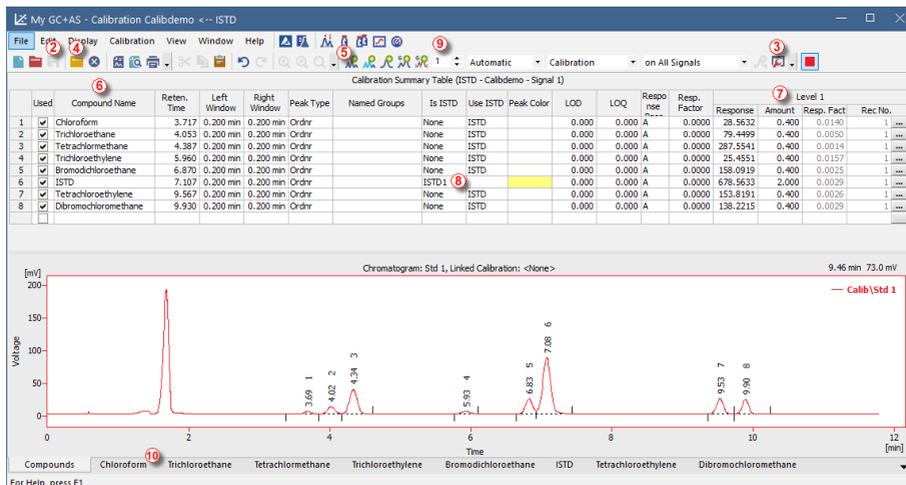

Fig 9: Calibration window - loaded standard
- Only one signal of the chromatogram can be active at a time. The active signal can be recognized from the legend section (1) in the upper right corner of the graph (active signal is set in bold), from the icons in the **Overlay** toolbar (2) (the active signal has the highlighted ■ icon) or from the graph outline color and table headers color. Values inside the tables change by changing the active signal.
- Change the active signal by double clicking on its name in the legend section (1). Change the color of the currently active signal to another one
- by clicking on the *Not used color*  icon in the *Overlay* toolbar. All parts of the **Chromatogram** window mentioned in the previous step will change color. Return to the former active signal by clicking on its (now raised ) icon in the *Overlay* toolbar ②.
- Click on any row in the *Result table* ③. The peak (or peaks) corresponding to the row you just clicked onto will change color according to the color of the signal. This change will last until the focus in the *Result table* is canceled.
- To add permanent color to the peak, click the *View* button ④ in the right side of the **Results** tab. This will get you to the linked calibration file. There, in the *Calibration Summary Table*, find the *Peak Color* column (see **Fig 9** on pg 20.). In the row corresponding to the peak to be colored select the appropriate color and click *OK*. Return to the **Chromatogram** window by using the  icon in the menu. The selected peak is now colored according to the color selected in the **Calibration** window.
- You can change the integration of peaks by using the interactive icons on the toolbars on the left side of the **Chromatogram** window ⑤ or directly on the **Integration** tab ⑥. Any changes made either way will change the **Integration table** and can be copied to the template method. To do so, click on *Method - Save as Template...* menu comand.
- Check that the **Current Level** field **9** is set to 1 in order to set the calibration level number 1. Use the **Add All** icon (blue) **5** to move all identified peaks to the calibration table. The Calibration table appears in the **Calibration** window, ready to be completed as seen on **Fig 9** on pg 20.
- As it can be clearly seen in the calibration, particular peaks are now identified according to their retention times only. Click and edit the fields in the **Compound Name** column **6** to those seen on **Fig 9** on pg 20. You may also set the peak color for some peak, for example the ISTD peak, in the **Peak Color** column.